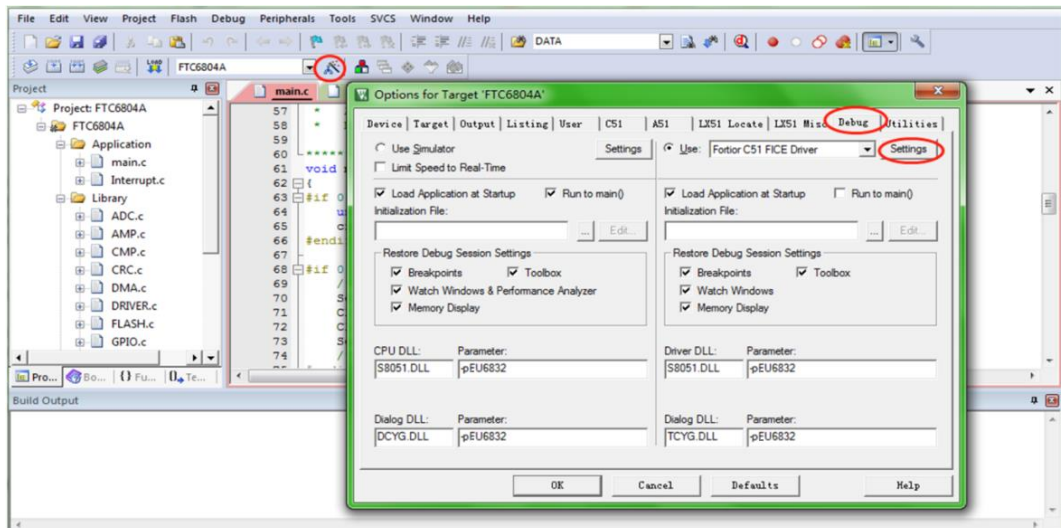

Figure 32-1 Code Protection Configurations
1. Start 8051 IDE, enter Target Options and select Debug tab. As shown in Figure 32-1, click Settings to proceed with the setting;